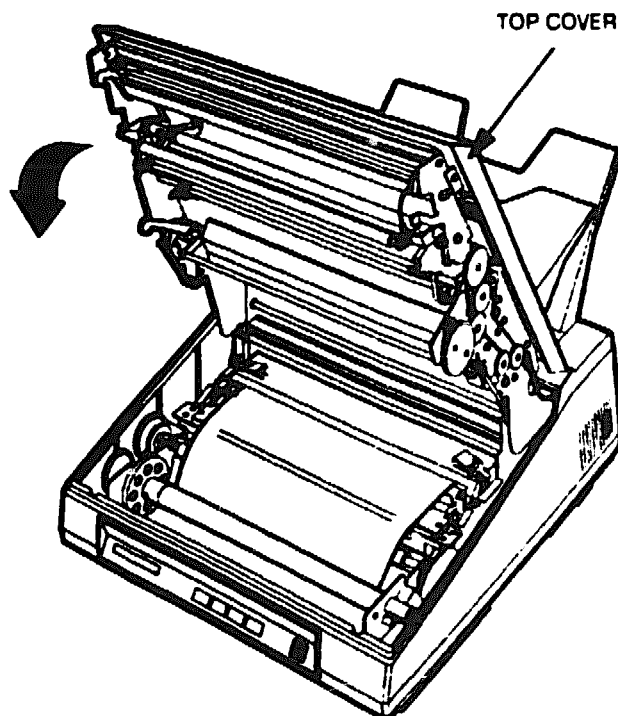

Figure 2-11 Closing the Upper Unit
9. Press down evenly on the sides of the top cover until the upper unit locks into place (see Figure 2-11).